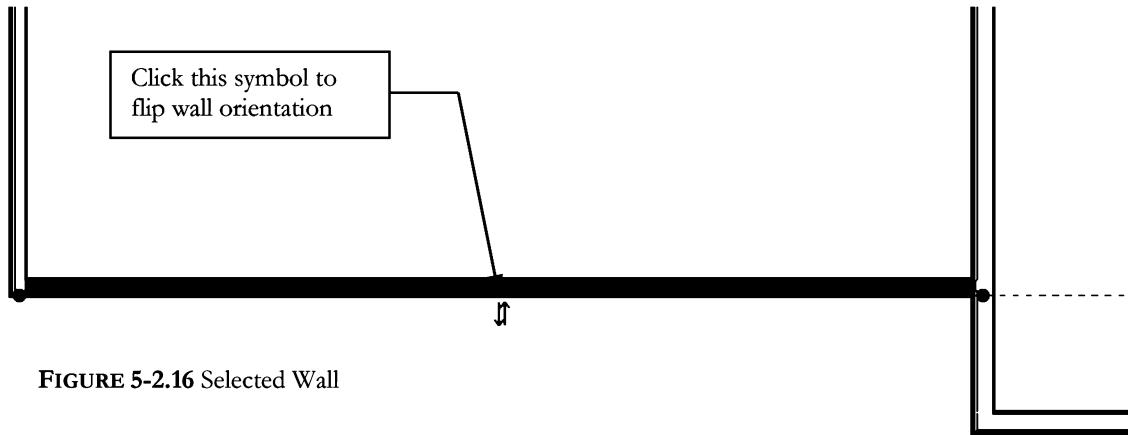

FIGURE 5-2.16 Selected Wall
36. Select **Modify** (or press **Esc**); select a wall. You will see a symbol appear that allows you to flip the wall orientation by clicking on that symbol (Figure 5-2.16).